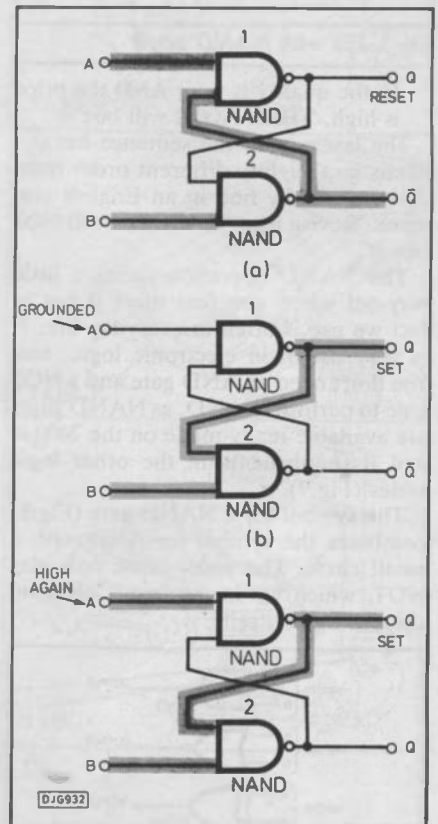

Fig 14. Action of a set-reset flip-flop
The way the flip-flop works is explained in Fig.14. Assume that it is in its reset state to begin with (Fig.14a) and inputs A and B are in their normal state, both high. Gate 1 has both of its inputs high, so its output Q is low. This low output is fed to one of the inputs of gate 2. Gate 2 thus has a low input (from gate 1) and a high input (B), so its output  $\bar{Q}$  is high (refer to the truth table for NAND if you are not clear about this).